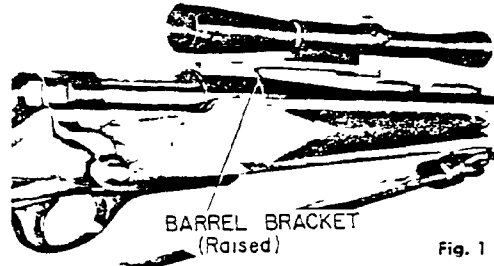

Fig. 1
**CAPACITY** — of four (4) shots is possible, counting three cartridges in the fixed magazine and one in the barrel chamber.
**TELESCOPE MOUNTING** (Fig. 1) — Remington is introducing a raised barrel bracket on this new MAGNUM Model 600. This newly designed bracket, located between receiver and barrel, provides a recoil shoulder or shooting support for telescope base.